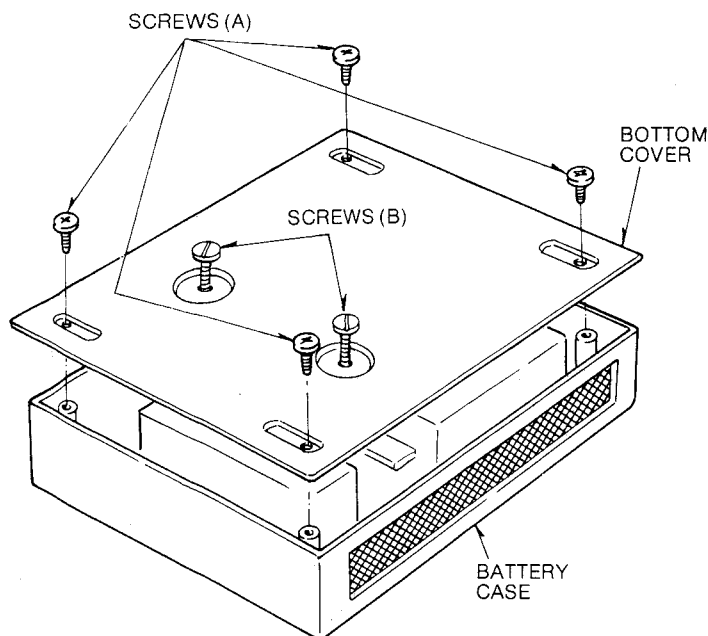

Figure 25.
2. Remove 4 screws (A) from the bottom and detach the bottom cover. (See figure 25.)